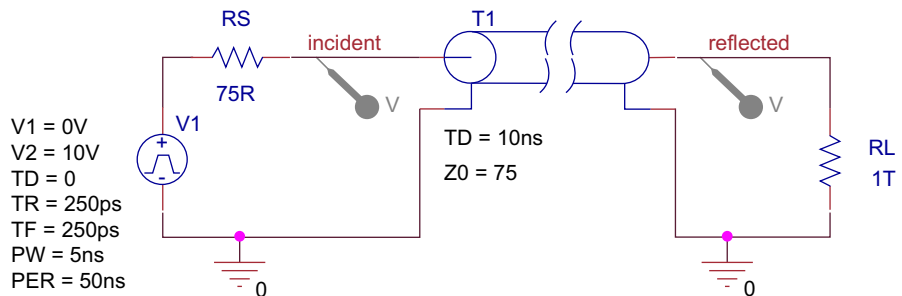

FIGURE 17.16
9. Delete the current markers and change the load resistance to a 1 TΩ resistor to represent an open circuit. Place voltage markers on the incident node and the top of the short circuit resistor (Figure 17.16) and rerun the simulation.